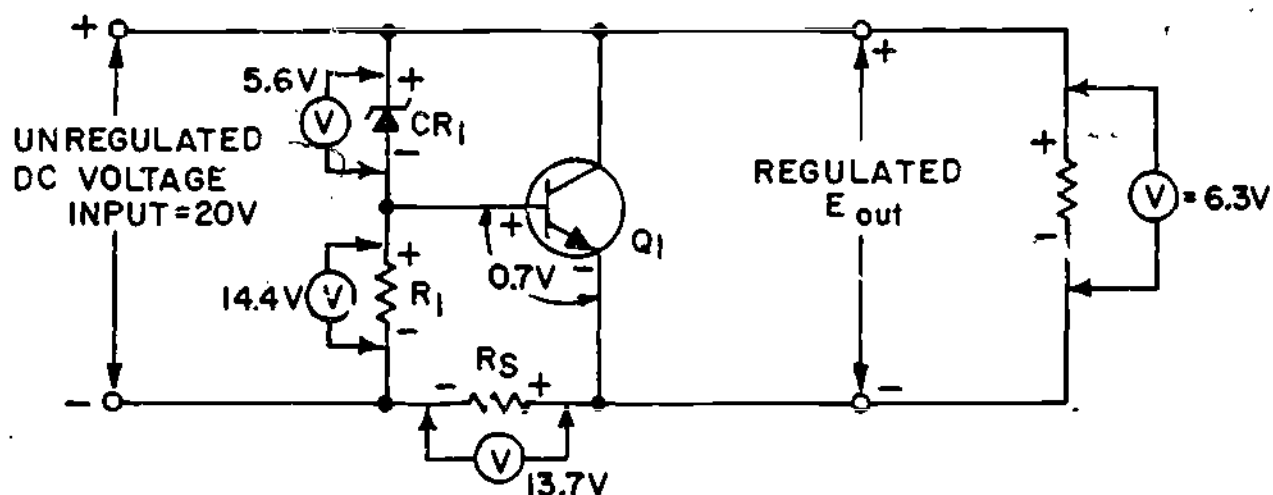
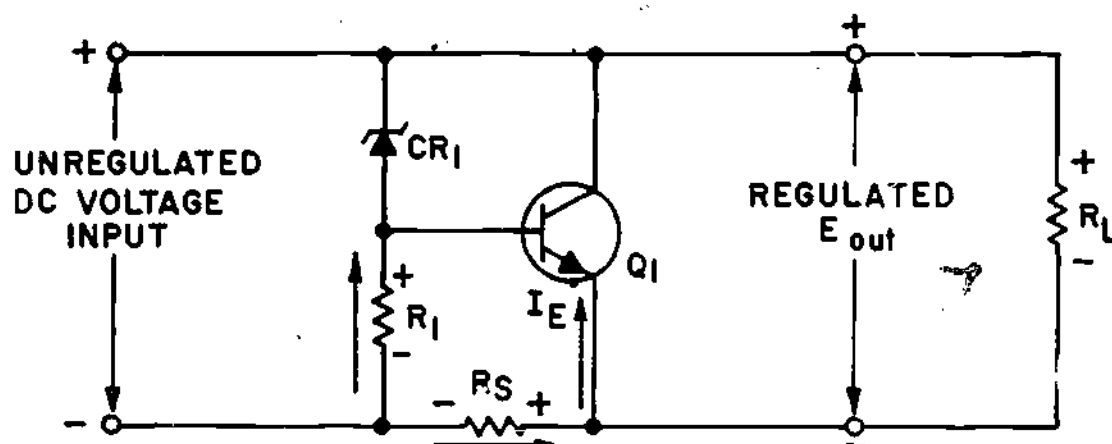

FIGURE 12
FIGURE 11
20. Figure 12 is the schematic for a typical shunt type regulator. Notice that the schematic is identical with the schematic shown in Figure 11 except that voltages are shown to help you understand the function of the various components.
19. The schematic shown in Figure 11 is that of a shunt voltage regulator.